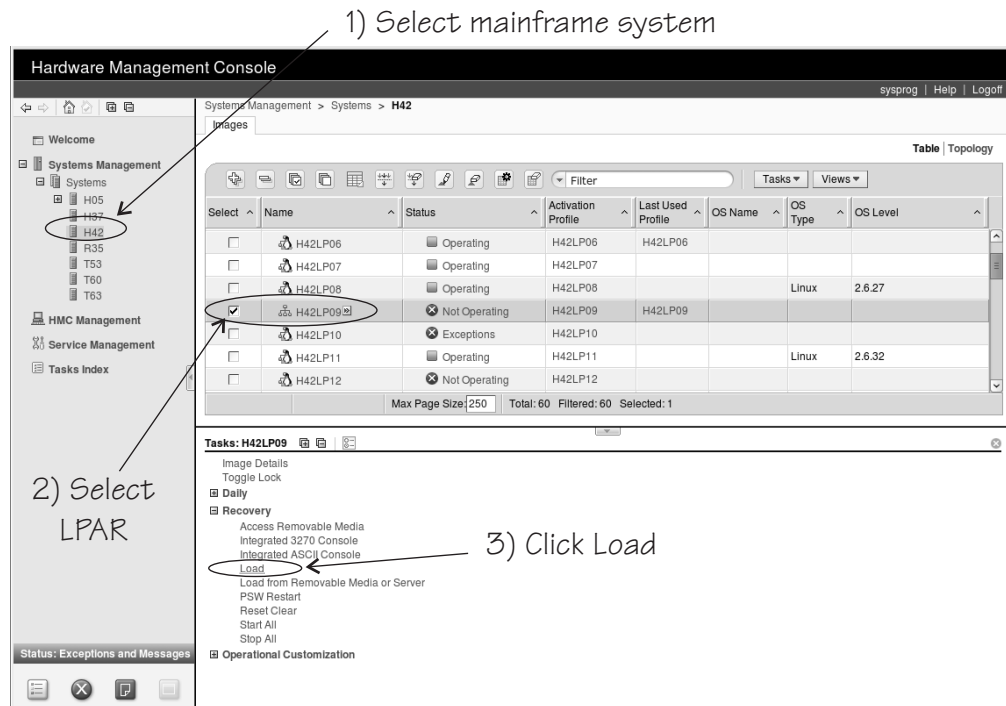

Figure 67. Load task on the HMC
3. In the **Tasks** area, expand **Recovery** and click **Load** (see Figure 67 on page 397).